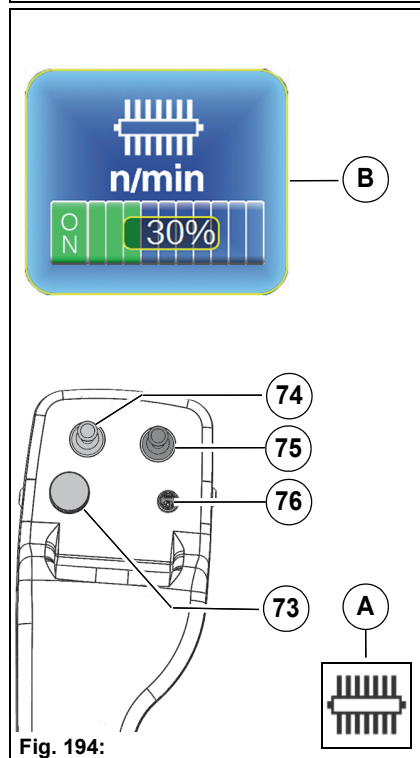

Fig. 194:
1. Switch on the work mode with the Hako button **Fig. 194-76**. The accelerator pedals must be in the neutral position. The front sweeping machine information symbol **Fig. 194-A** appears in the multifunction display.
2. Use the turn-push knob **Fig. 194-73** in the working menu to switch on the front sweeping machine **Fig. 194-B** and to set the speed.